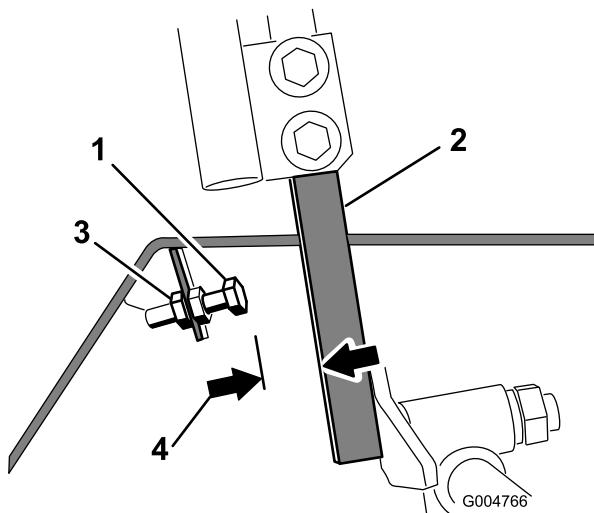

Figure 65
- Loosen the jam nut on the stop bolt for one of the control levers (Figure 65).